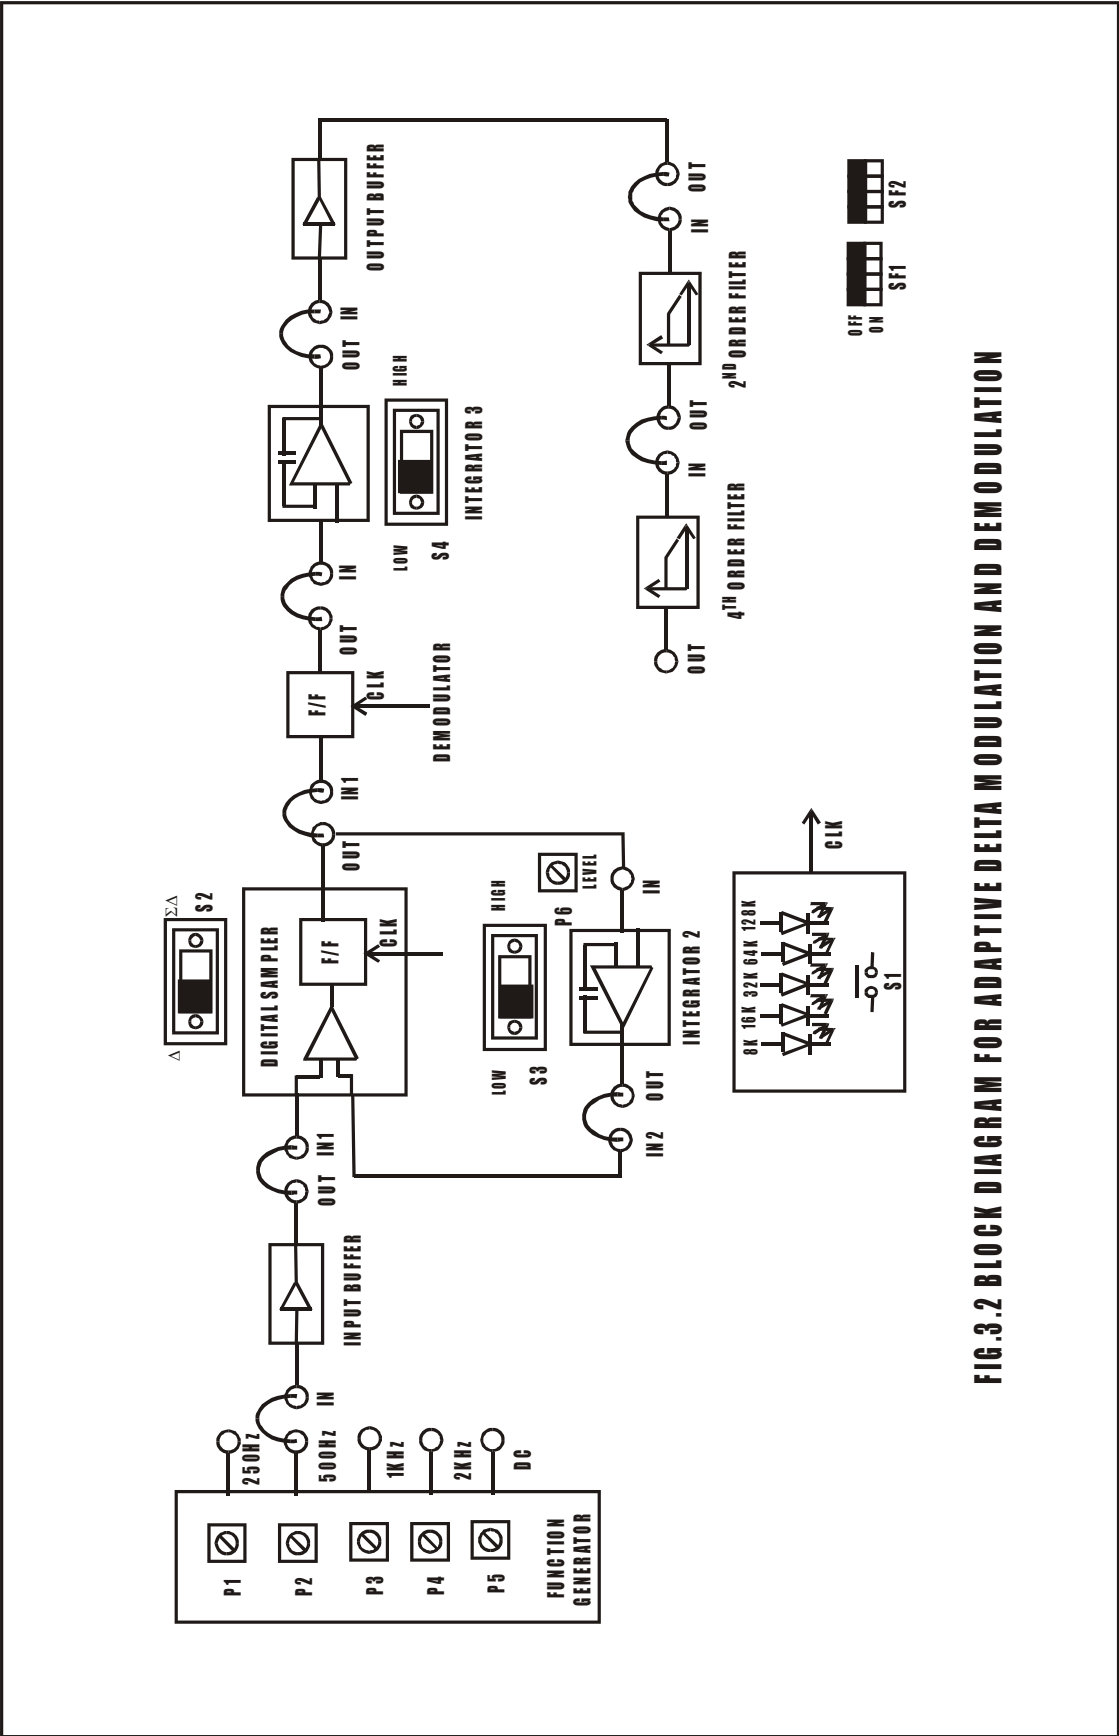

FIG.3.2 BLOCK DIAGRAM FOR ADAPTIVE DELTA MODULATION AND DEMODULATION
1. Refer to the block diagram (Fig. 3.2) and carry out the following connections.